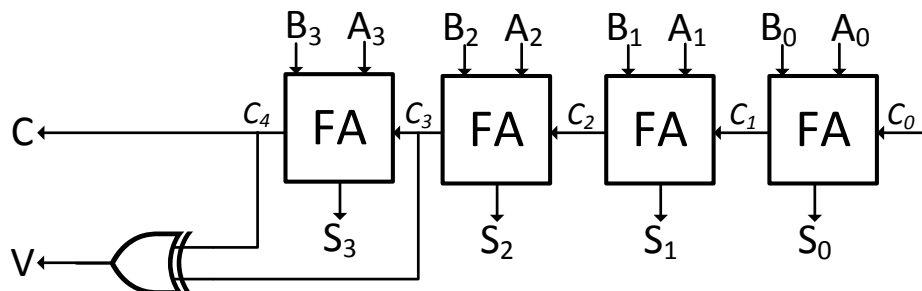
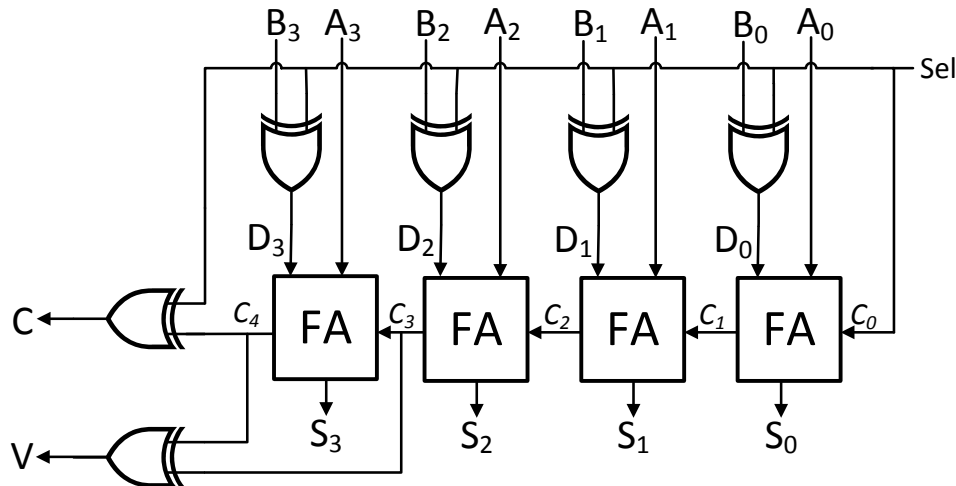

Figure 2: Ripple Carry Adder Circuit
Figure 3: Ripple Carry Adder/Subtractor Circuit
- 1.4. Figure 2 shows how to implement a 4-bit ripple adder using a sequence of 1-bit full adders. Using an example, verify that this circuit functions as a 4-bit adder.
- 1.6. By slightly modifying the circuit shown in Figure 2 we can design an adder/subtractor as shown in Figure 3. Why does this circuit make an adder when the  $Sel == 0$ , and why does it behave as a subtractor when the  $Sel == 1$ ?